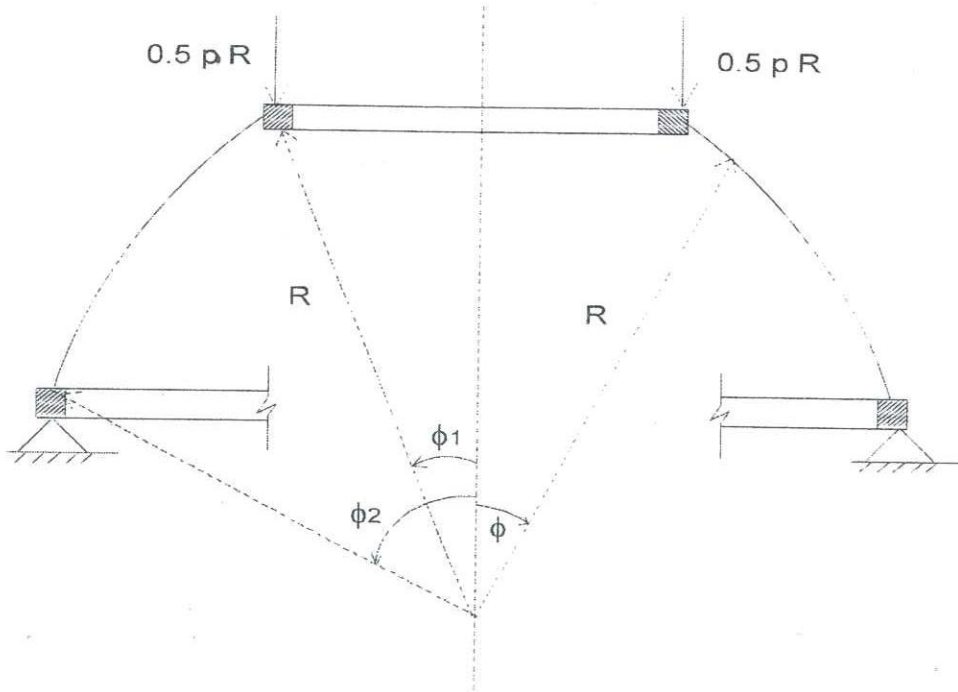

Figure Q4
- c) A spherical lantern shell stiffened by the upper ring and the lower ring is shown in Figure Q4. The shell structure is having radius of R and carrying a vertical line load of $0.5 pR$ per unit length and a designed live load of p per unit plan area.